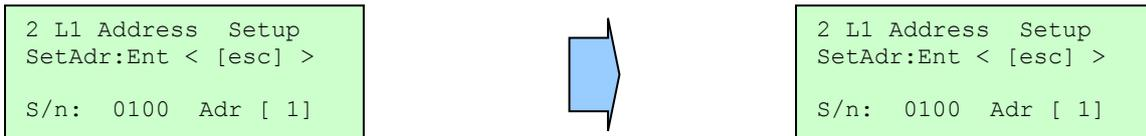

Figure 16 – Locating the VAA to address by serial number
3. From the Address Setup page you can cycle through all the connected VAA units by pressing the **ENTER** key. The VAA units will appear starting with the unit with the lowest serial number. VAA serial number 0100 will be used in this example. Once you have found the serial number of the VAA that you want to change the address of, press the **▶** key once. You will notice on the second line of the display the text will change from "Accept" to "SetAdr", as shown in Figure 16.